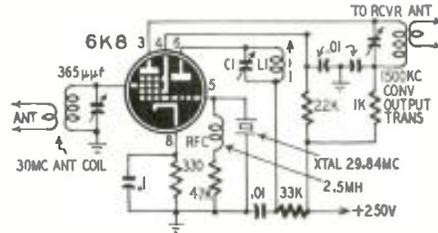
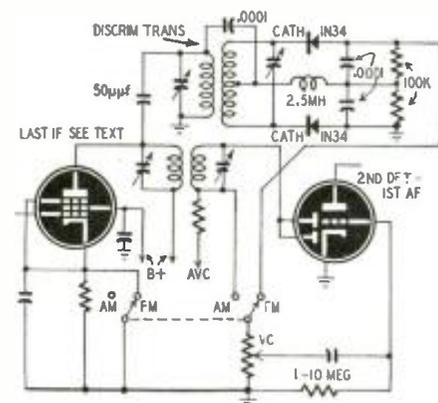

Fig. 1—Crystal controlled converter.
Fig. 2—The circuit of the FM adapter.
A. The crystal-controlled converter is shown in Fig. 1 and the FM adapter in Fig. 2. A 30-mc antenna is coupled to the input of the 6K8 converter tube through a 30-mc antenna coil tuned by a standard single-section, 365-µµf capacitor or padder. The crystal frequency of 29.84 mc is selected so the 31.34-mc signal will be received when